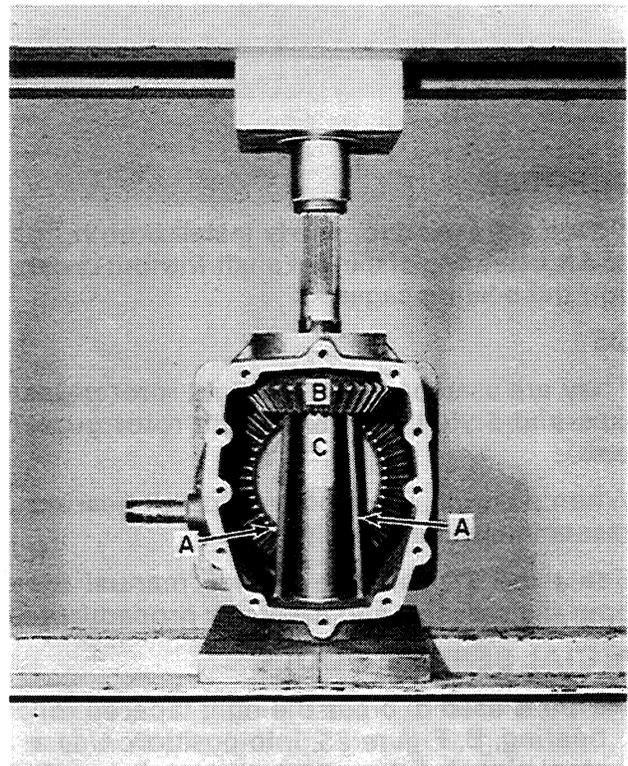

FIGURE 27
1. Flat steel pieces, A, Figure 27, are used to support input gear, B, when pressing input shaft, C, out of the gear. Using these steel pieces will keep the input gear from binding on the tapered spline fit of the input shaft.
Insert the steel pieces as shown in Figure 27. Use a suitable press to push out the shaft.